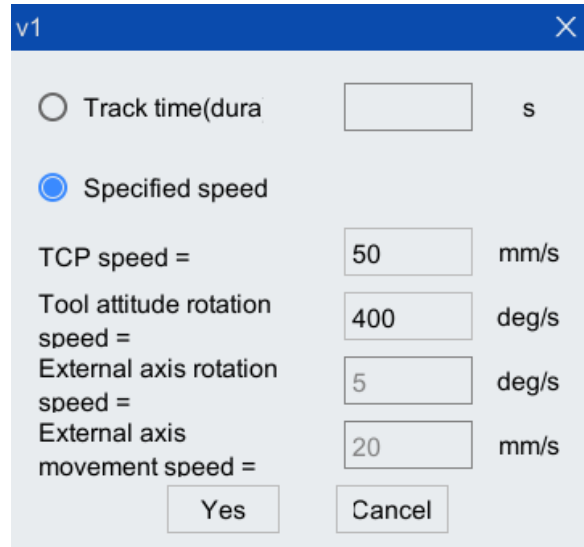

Figure 7-34 Parameters v configuration interface
Step3. Click the icon  after the parameter [v], and the interface shown in Figure 7-34 will pop up. After completing the parameter configuration, click <Yes>. The parameter descriptions are shown in Table 7-17.